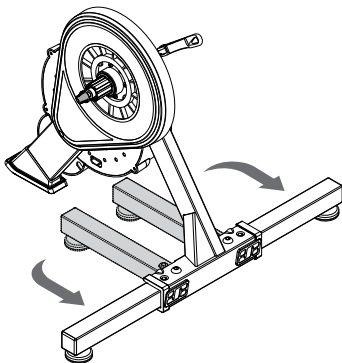

Figure 1
1. Setup your trainer on the ground and unfold the legs for stability. Ensure that each leg has clicked and is secure in the open position. (Figure 1)